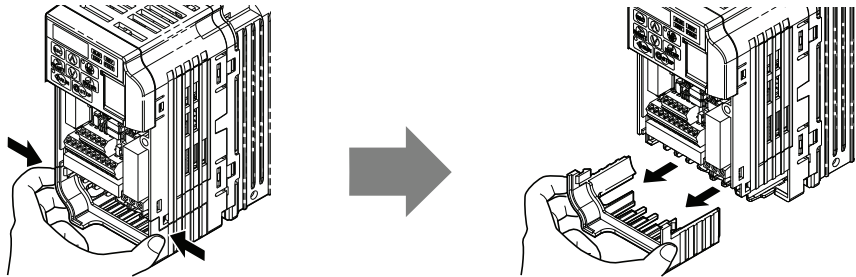
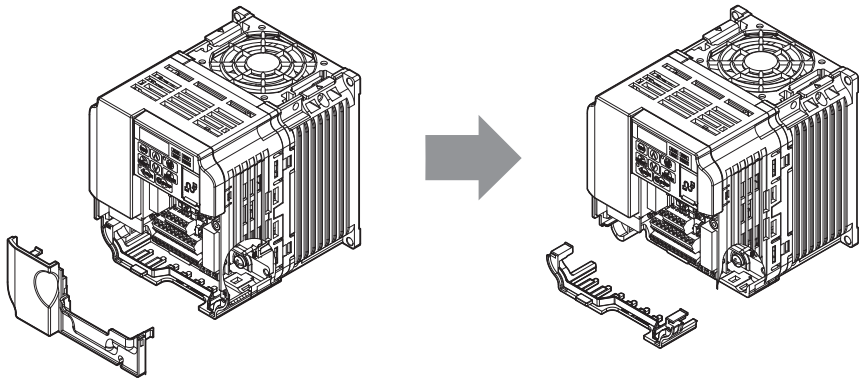

Figure 5 Remove the Bottom Cover on an IP20/Open-Chassis Drive (Models CIMR-V□□BA0001B to BA0003B and 2A0001B to 2A0006B)
Figure 6 Remove the Terminal Cover and Bottom Cover on an IP20/Open-Chassis Drive (Models CIMR-V□□BA0006B to BA0018B; 2A0010B to 2A0069B; 4A0001B to 4A0038B)
3. For IP20/Open-Chassis models CIMR-V□□□A□□□□B, Remove the bottom cover of the drive by applying pressure to the tabs on each side of the bottom cover. Pull the bottom cover away from the drive while pushing in on the tabs to release the cover from the drive. Refer to Figure 5 for details. Refer to Figure 6 for drive models CIMR-V□□BA0006B to BA0018B, 2A0010B to 2A0069B, and 4A0001B to 4A0038B, which require removing the terminal cover prior to removing the bottom cover.